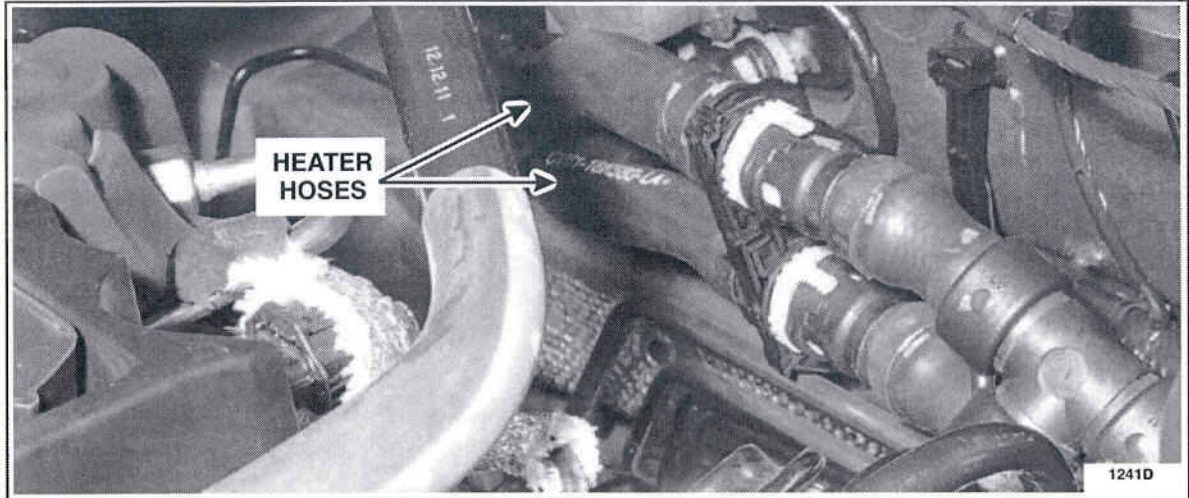

FIGURE 5
15. Pull gently on the heater hoses at the heater core to verify connection. Inspect all heater hose and coolant hose connections for proper clamp installation and evidence of leaks. See Figure 5.